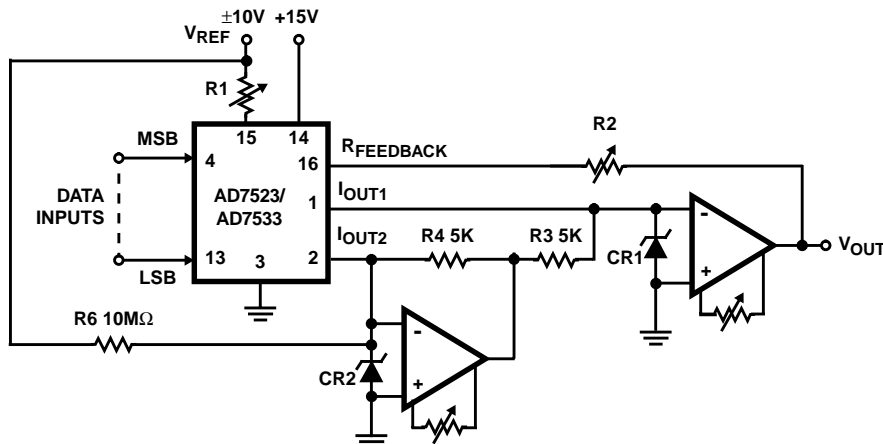

FIGURE 3. BIPOlar OPERATION (4-QUADRANT MULTIPLICATION)
The circuit configuration for operating the AD7523 in the bipolar mode is given in Figure 3. Using offset binary digital input codes and positive and negative reference voltage values, Four-Quadrant multiplication can be realized. The "Digital Input Code/Analog Output Value" table for bipolar mode is given in Table 3.)
A "Logic 1" input at any digital input forces the corresponding ladder switch to steer the bit current to I_{OUT1} bus. A "Logic 0" input forces the bit current to I_{OUT2} bus. For any code the I_{OUT1} and I_{OUT2} bus currents are complements of one another. The current amplifier at I_{OUT2} changes the polarity of I_{OUT2} current and the transconductance amplifier at I_{OUT} output sums the two currents. This configuration doubles the output range. The difference current resulting at zero offset binary code, (MSB = "Logic 1", all other bits = "Logic 0"), is corrected by using an external resistor, ($10M\Omega$), from V_{REF} to I_{OUT2} (Figure 3).
The circuit configuration for operating the AD7533 in the bipolar mode is given in Figure 3. Using offset binary digital input codes and positive and negative reference voltage values, 4-Quadrant multiplication can be realized. The "Digital Input Code/Analog Output Value" table for bipolar mode is given in Table 4.
3. Nominal LSB magnitude for the circuit of Figure 3 is given by: